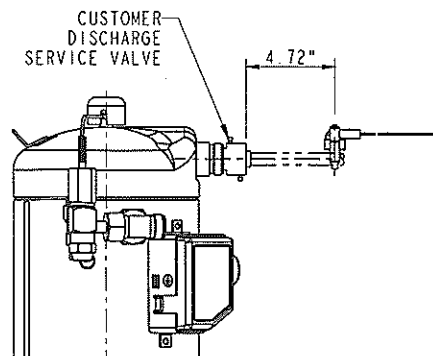

Figure 7. Thermostat installation
2. Snap the retainer clip over the tube and onto the thermostat. The thermostat should be placed on the discharge tube so that the body is in an upward position on a horizontal tube installation. Please see figure 7.